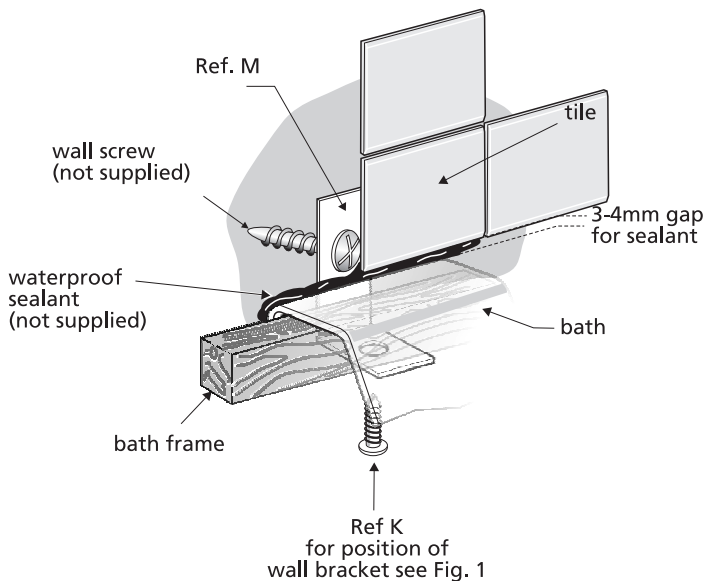

Fig. 6
8. Fit the two wall fixing brackets to bath frame as indicated in Fig. 6 and Fig. 1. Pilot drill holes (\varnothing 2mm) in frame before fixing brackets.
14. Tile down to the height of the bath rim leaving a 3-4mm gap for waterproof sealant, see Fig. 6. An extruded sealing strip can be used for the bath to wall joint as an alternative to waterproof sealant. Protect bath during tiling.